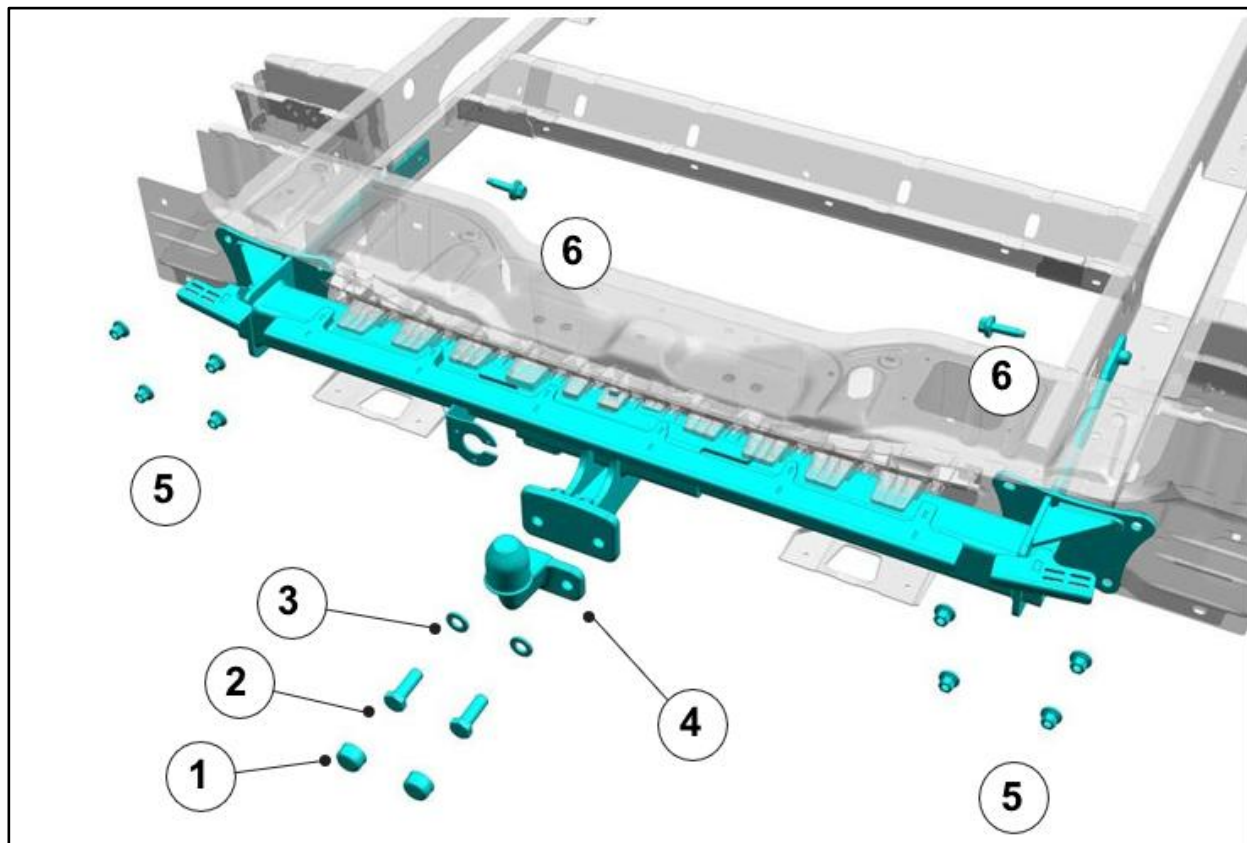

Fig. 3: Fitting the fixed ball coupling
- To secure the ball coupling, see the figures 3 and 4 below; “Ball coupling for Transporter panel van, Caravelle and window van”